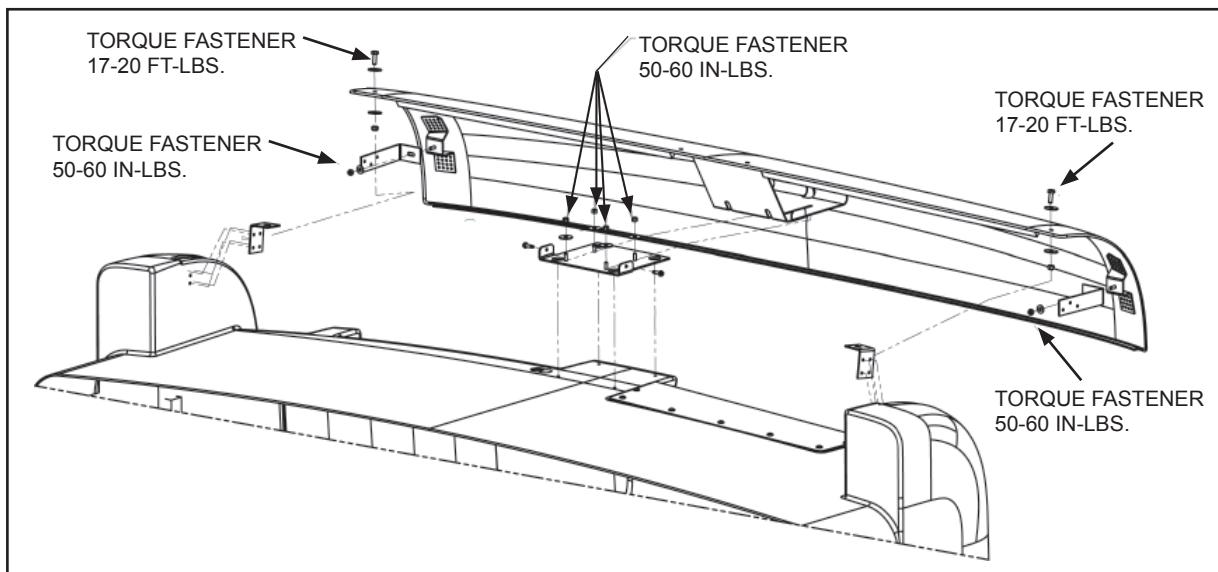

Figure 12
21. Torque the two bolts, installed in Step 17, to 17-20 ft-lbs. If locking nuts are not present, apply Loctite® Threadlocker Blue 242® to the threads prior to tightening. See Figure 12 for a summary of torque specifications.